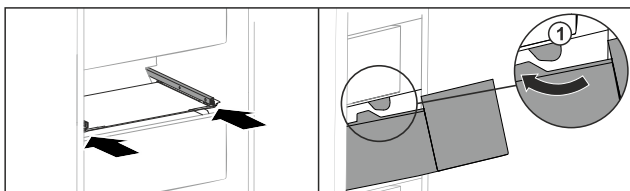

Fig. 140
- Guide drawer around the stoppers Fig. 140 (1).